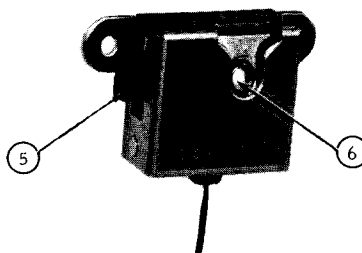

Figure 4.
a. Controls and Indicators (Refer to Figure 4)
① CALL Light - Lights when correctly tone-coded message is received. An alert tone is also heard at this time. The lamp remains on until reset. The CALL light will always respond to a correctly coded transmission regardless of the setting of other controls.
② Call Reset Switch - Momentary action pushbutton switch, resets the CALL light and remutes the receiver when operated.
③ HORN switch - Alternate action pushbutton switch. This switch enables or disables the vehicle horn as an external alerting feature of a received call.
④ LIGHTS Switch - Alternate action pushbutton switch. This switch enables or disables the vehicle lights as an external alerting feature of a received call.
⑤ Monitor-Operate Switch - Slide switch on the side of the microphone hang-up box. When this